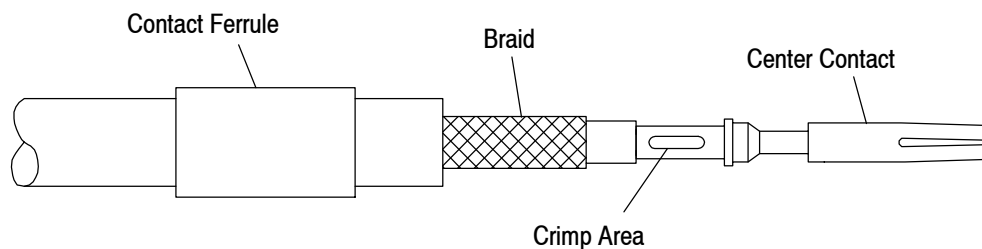

Figure 6
1. Place the center contact into the positioner of the crimp tool. Insert the center conductor into the contact. Make sure the dielectric is bottomed against the center contact. See Figure 6. Crimp the center contact using the Daniels tool and positioner referenced in Section 5, TOOLING.